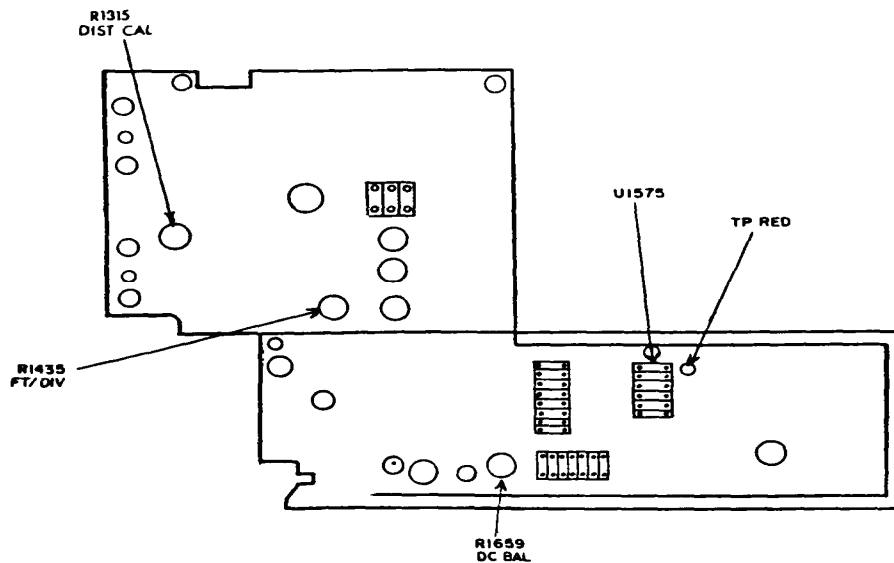

Figure 7. Main board - bottom view.
b. Adjustments. Adjust R1659 DC BAL (fig. 7) for minimum trace shift while disconnecting and connecting termination (R).
- (1) Push **POWER** switch to off.
- (2) Remove U1575 (fig. 7) from TI.
- (3) Connect pulse generator to TP RED (fig. 7), using test lead.
(4) Set pulse generator for 50 μ s duration, -3.5 V output with +2.0 V offset and external trigger.
(5) Pull **POWER** switch to on.
(6) Position controls as listed in (a) through (c) below:
(7) Connect oscilloscope calibrator output to **CABLE** input, using cable and X10 attenuator.
(8) Connect oscilloscope calibrator external trigger output to pulse generator trigger input.
(9) Set oscilloscope calibrator for 0.2 μ S marker output.
(10) Align first time-mark behind first vertical graticule line on crt using **DISTANCE** control. If the 11th time-mark does not align within 0.2 minor divisions to the left of the 11th graticule line, perform **b** below.
(11) Push **POWER** switch to off and replace U1575 (fig. 7). Pull **POWER** switch to on.
b. Adjustments. Adjust R1435 FT/DIV (fig. 7) to align alternate markers behind each vertical graticule line using **DISTANCE** control to keep first time-mark behind first vertical graticule line (R).
(2) Align incident pulse of crt display to graticule reference line (2d graticule), using **ZERO REF** control.
(3) Connect a 36" BNC to BNC, RG-58 cable to **CABLE** input.
(4) Adjust **DISTANCE** dial to **031.5**. If leading edge of reflected pulse is not centered on graticule reference line within ± 0.1 division, perform **b** below.
(5) Press **ZERO REF CHECK** pushbutton. If the incident pulse does not return to graticule reference line, press and hold **ZERO REF CHECK** pushbutton while adjusting **ZERO REF SET** control until incident pulse is aligned on graticule reference line.
b. Adjustments. Adjust R1315 DIST CAL (fig. 7) to align leading edge of reflected pulse to reference graticule line.